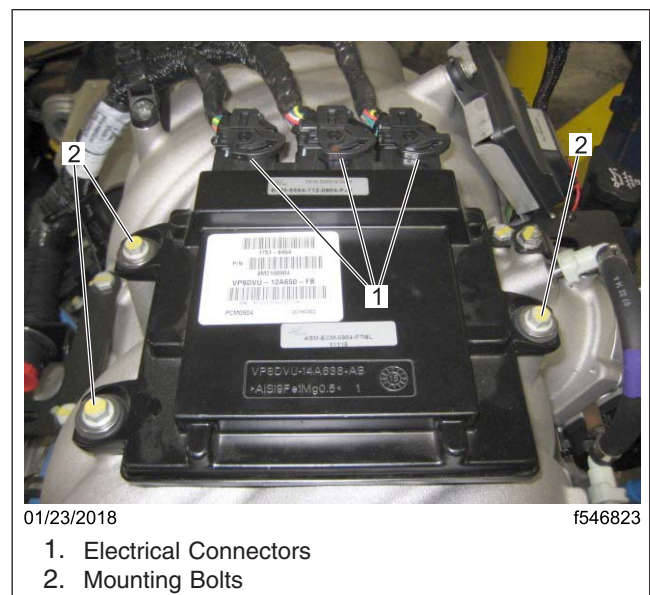

Fig. 2, Disconnecting the ECM
- 5.1 Disconnect the three electrical connectors at the ECM. See Fig. 2, Item 1.
- 5.2 Remove the three mounting bolts that attach the ECM to the top of the intake manifold and set the bolts aside. See Fig. 2, Item 2.
- 1.1 Using the three mounting bolts, install the ECM. Tighten the bolts 106 lbf·in (1198 N·cm). See Fig. 2, Item 2.
- 1.2 Connect the three electrical connectors at the ECM. See Fig. 2, Item 1.